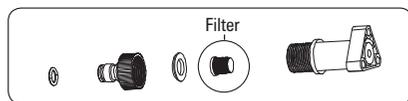

FIGURE 13
4. Connect the water inlet hose to the pressure washer (figure 13)
- Check also the water inlet filter periodically and perform cleaning, if necessary. (figure 13)